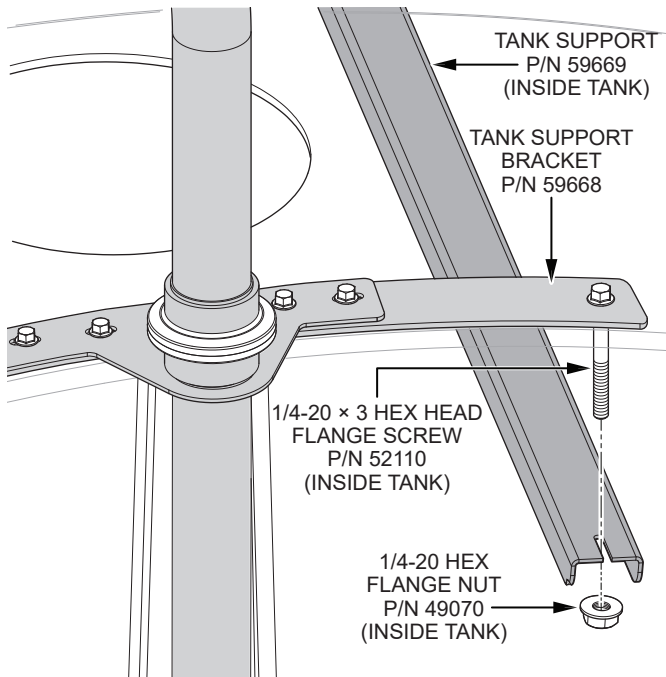

Figure 16. Secure Tank Support (Front)
7. Maneuver the slotted end of the **tank support (P/N 59669)** so that the **1/4-20 × 3 hex head flange screw (P/N 52110)** that was inserted into the tank during the previous step is aligned inside the slot. See Figure 16.
8. Finger tighten a **1/4-20 hex flange nut (P/N 49070)** onto the **1/4-20 × 3 hex head flange screw (P/N 52110)**, then use a wrench and impact driver to partially tighten the nut and screw until the **tank support bracket (P/N 59668)** and **tank support (P/N 59669)** are held in place. **DO NOT** fully tighten these components at this time. See Figure 16.
10. Fully tighten the components from step 8 (Figure 16) until the **tank support bracket (P/N 59668)** and **tank support (P/N 59669)** are fastened securely to the front of the water tank.